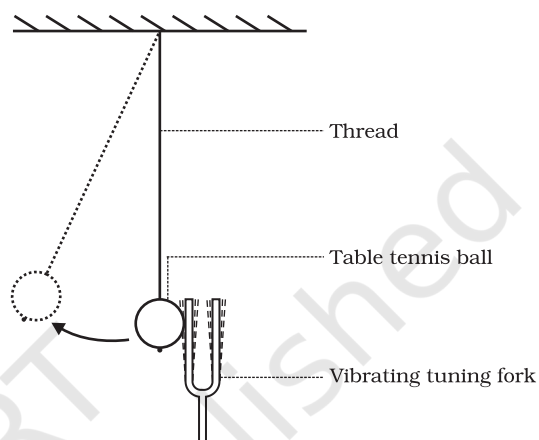

Fig. 11.1: Vibrating tuning fork just touching the suspended table tennis ball.
- Now, suspend a table tennis ball or a small plastic ball by a thread from a support [Take a big needle and a thread, put a knot at one end of the thread, and then with the help of the needle pass the thread through the ball]. Touch the ball gently with the prong of a vibrating tuning fork (Fig. 11.1).